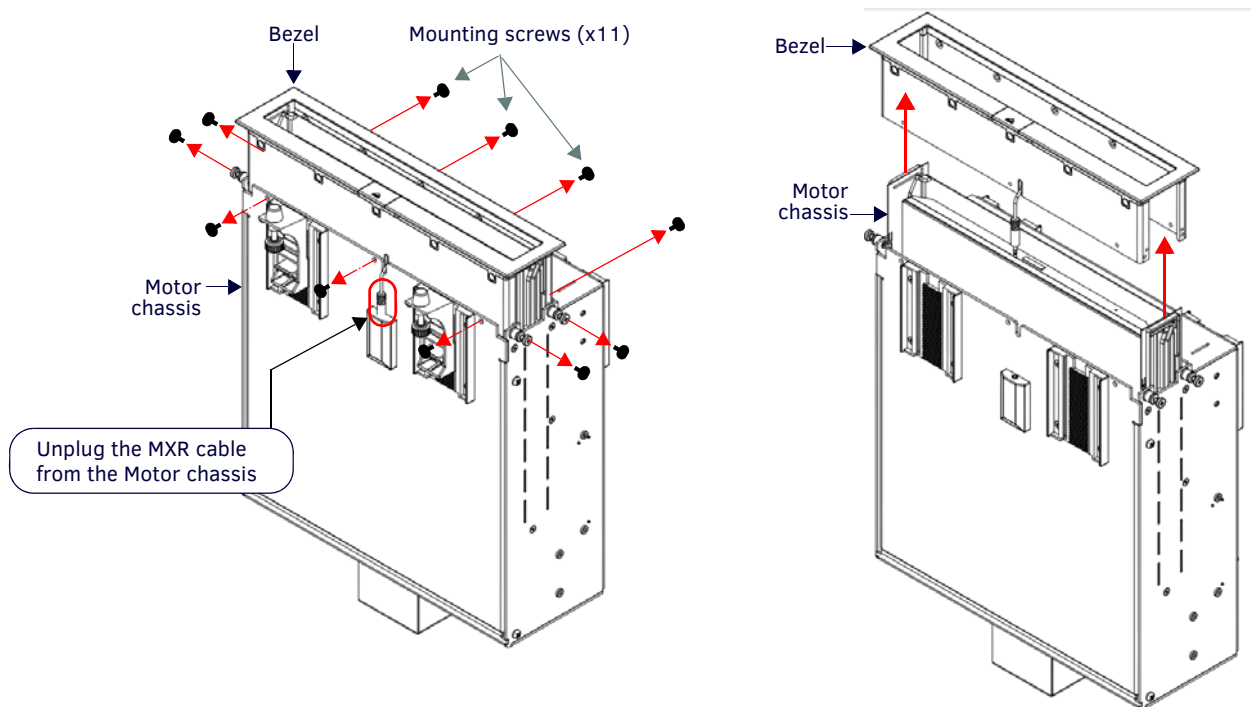

FIG. 12 Attaching the Bezel to the Motor chassis
8. Plug the MXR Cable from the Bezel into the connector on the front panel of the Motor chassis (beneath the mounting surface - see FIG. 12).